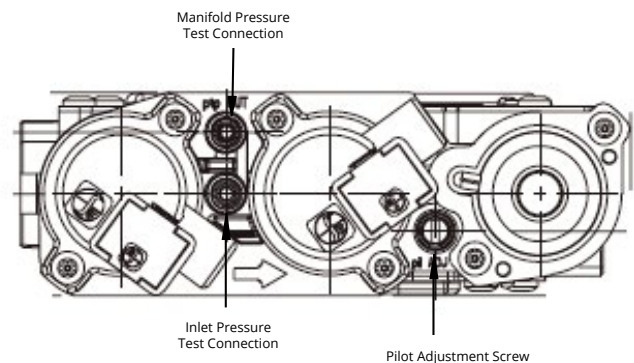

Figure 28. Pilot Adjustment on the SIT Proflame 2 gas valve.
1. Locate Pilot Adjustment Screw. (See *figure 28*)